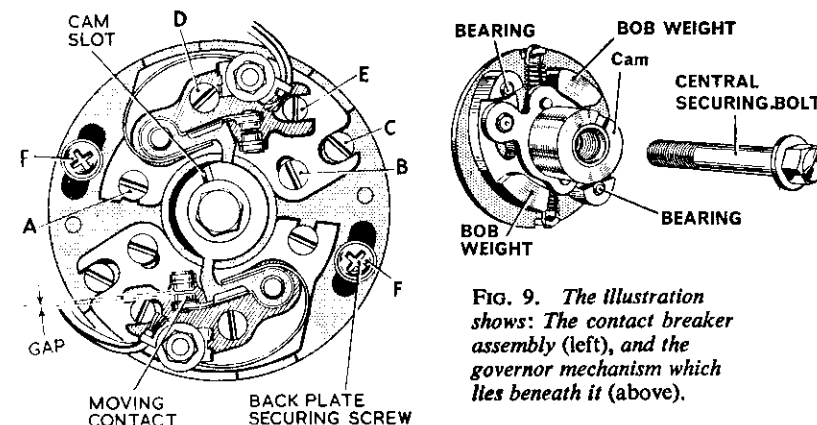

FIG. 9. The illustration shows: The contact breaker assembly (left), and the governor mechanism which lies beneath it (above).
The next step is to set the auto-advance mechanism of the contact breaker in the fully advanced position. (The governor weights in the mechanism will automatically have returned to the retarded position when the engine is stationary.) Remove the central securing bolt (Fig. 9), withdraw the washer and temporarily replace the latter with another washer having a hole just large enough to fit over the cam bearing, thus allowing the washer to bear against the side face of the cam. Replace the bolt, but before tightening rotate the cam to its limit in an anti-clockwise direction, hold in position,
Now check that the upper pair of contact breaker points are just opening. If incorrect, slacken the two screws (A) and (B) securing the plate which carries the contact breaker assembly, and adjust the eccentric pin (C) until the points are just opening (Fig. 9). Retighten the screws and check the whole setting carefully. The best way of determining the precise point of opening of the contact breaker points is to connect a small battery and bulb in series with the points.
Check the right side cylinder first. With the engine running at a speed high enough to ensure that the automatic ignition control has moved the ignition timing to the fully advanced position, the line and pointer should coincide when examined under the flashing light of the strobelight, if the ignition setting is correct. Should adjustment be required slacken the two screws (A) and (B) Fig. 9, securing the plate which carries the contact breaker assembly, and adjust the eccentric pin (C) until the points are just opening and the above condition is obtained.
CONTACT BREAKER (Fig. 9)
AUTO-ADVANCE UNIT (FIG. 9)
To expose this mechanism, remove the two screws (F) Fig. 9, and detach the contact breaker back plate complete with contact points etc. It is not necessary to unscrew the central bolt, because although the whole mechanism is retained on a tapered shaft, to do so may release the unit, requiring complete retiming of the ignition. If however, the mechanism is to be taken out, remove the central bolt and insert an extractor bolt into the threads specially provided for this purpose. The bolt is available as a B.S.A. Service Tool No. 61-5005 and should be screwed in as far as possible, when a sharp jerk on the end of the spanner will release the unit.